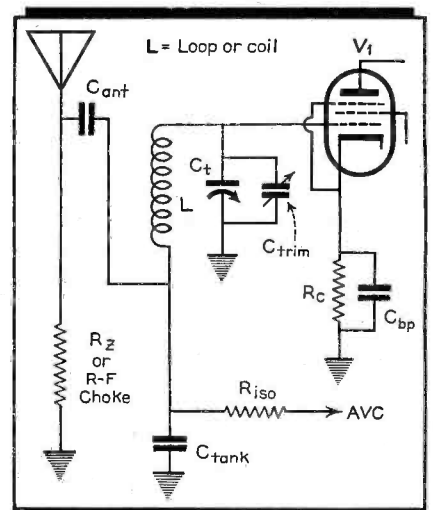

Fig. 4. The condenser  $C_{tank}$  provides a common impedance link for both the antenna and tuning tank circuits.
Fig. 4 represents the circuit of a set using either a coil or a loop as the inductance  $L$ . In either case, the condenser  $C_{tank}$  is provided as a common coupling link for the external antenna
As mentioned above, the condenser  $C_{tank}$  in Fig. 4 is quite critical. Should it be impossible to obtain the exact value, however, an adjustable padder may be substituted provided it includes the required capacity in its adjustable range. This padder should be adjusted at the low frequency end of the band in the same manner as the padder in a typical oscillator circuit.
11) In Fig. 4 the condenser  $C_{tank}$  provides a common impedance for the antenna and tuning tank circuit. Its value is somewhat critical and is generally 0.002 mfd.
12) The resistance  $R_z$  in Fig. 4 provides a low impedance path for hum modulation currents. Its value is not critical and may be from 5,000 to 25,000 ohms.